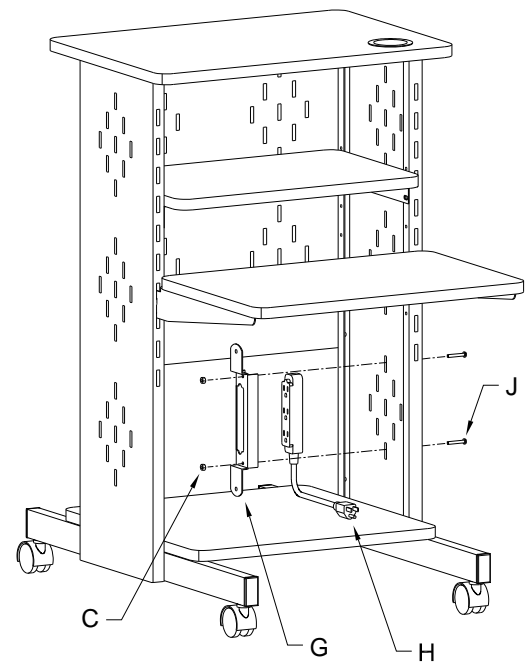

Figure 10
11. Install the electrical. See Figure 10. It may be placed on the inside (as shown) or the outside of the cart in several optional locations.